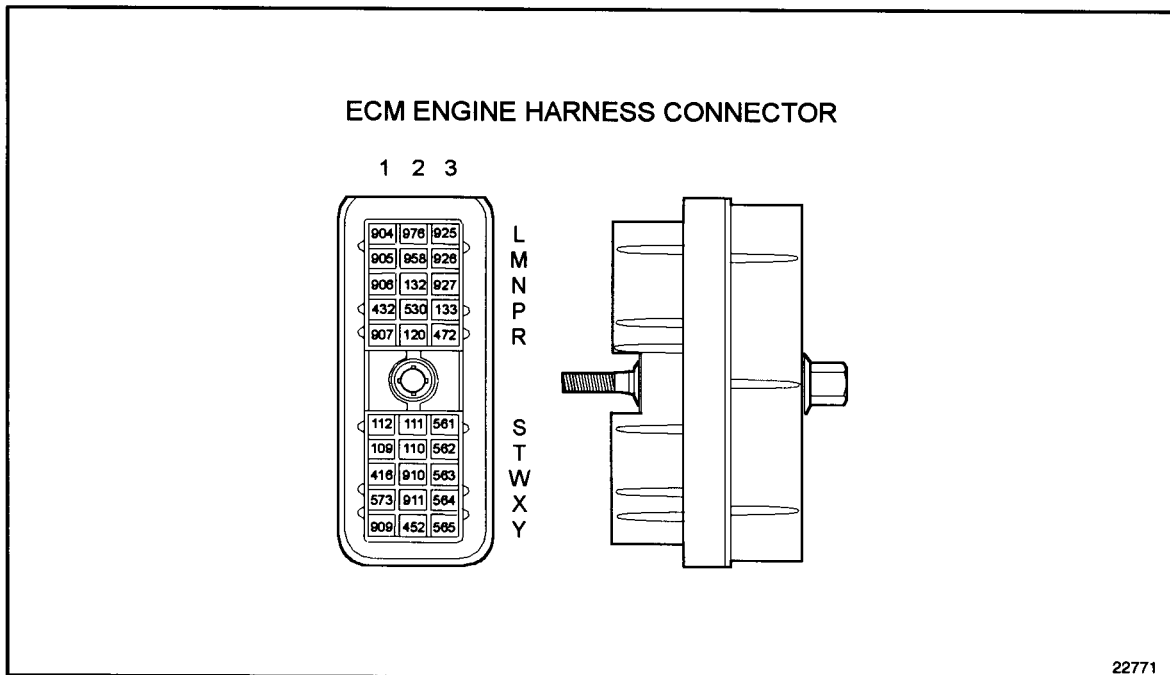

Figure 41-2 Engine Harness Connector
2. Disconnect engine harness connector at the ECM. See Figure 41-2.